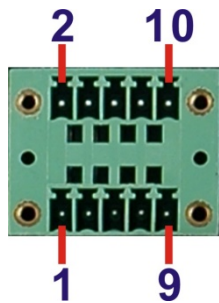

Figure 3-13: DIO Terminal Block Pinout Location
- CN Pinouts:** See **Table 3-1** and **Figure 3-13**